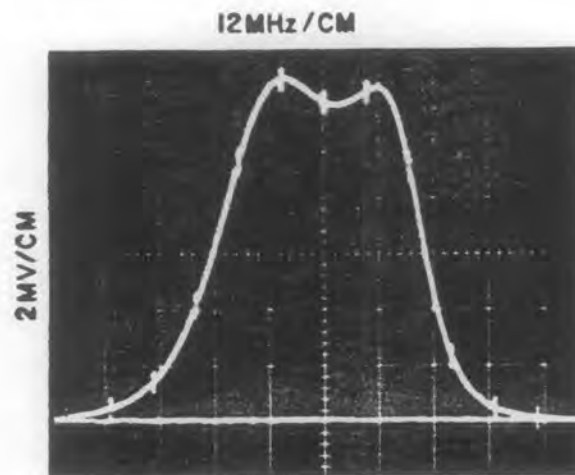

Figure 4-3. Typical 2160 MHz Amplifier/Converter Overall Response Curve
- (2) Adjust the sweep generator set to 2160 MHz at -30 dBm, and oscilloscope to display the 160 MHz sweep response.
- (3) Adjust the marker generator to produce 10 MHz markers.
- (4) The displayed response should have a 1 dB bandwidth of 40 MHz minimum and should appear similar to the response illustrated in Figure 4-3.